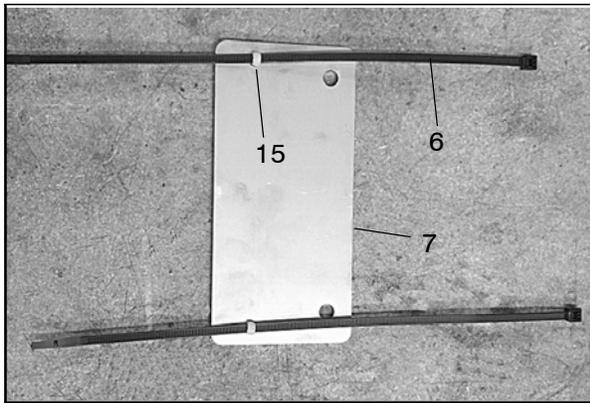

Fig. 9
- Install two wire tie clips (15) and two wire ties (6) onto the shunt bracket (7). (Fig. 9)